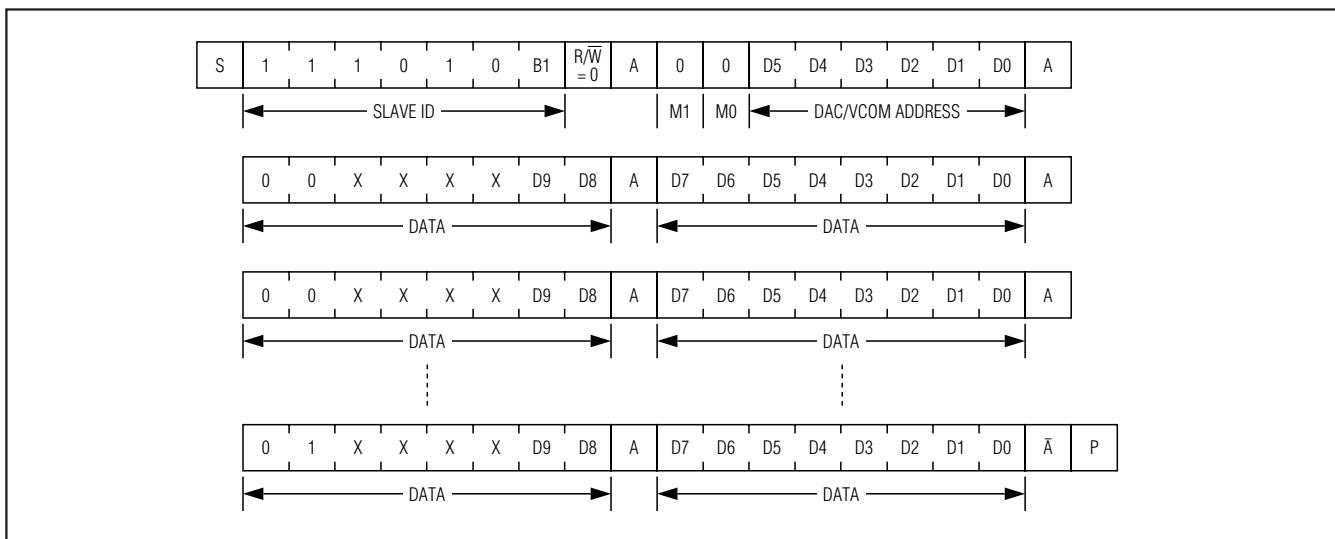

Figure 11. Multiple MTP Programming
Figure 11 shows how to program multiple MTP registers in one communication transition. Similar to programming the volatile memory, the first 2 bytes of data corresponds to the DAC/VCOM address specified by the master on the previous byte and the following 2 bytes of data correspond to the next address and so on. In this configuration all the MTP registers are programmed at the same time following the LSB of the last set of data bytes. (The last set of data bytes is different than the previous bytes as it is bit 15 and bit 14.) If for some reason the master issues a STOP condition before sending the last 2 bytes of the data with appropriate values of bit 15 and bit 14 (01) then none of the MTP registers will be updated.